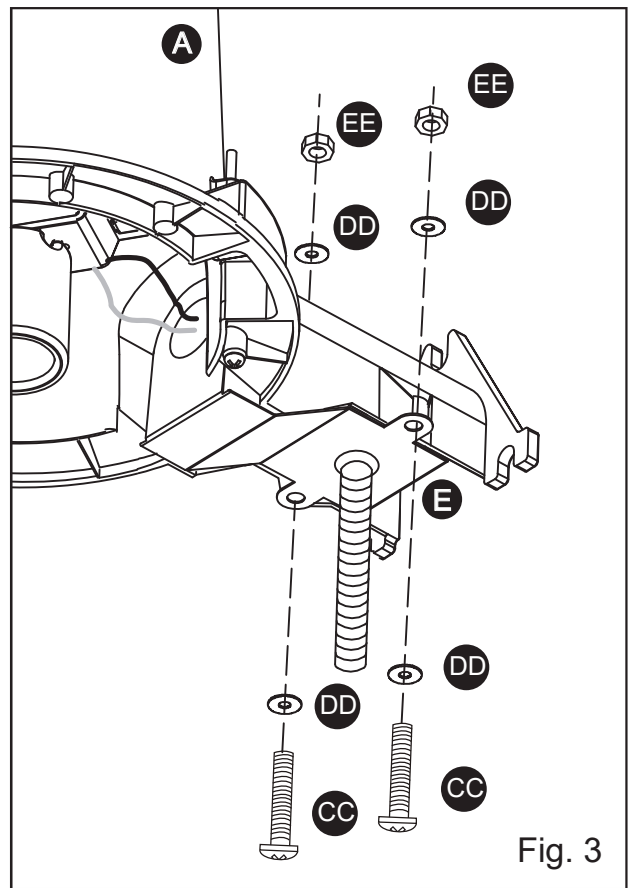

Fig. 3
Install (E). Secure with the screws (CC), washers (DD) and nuts (EE) (see Fig 3).